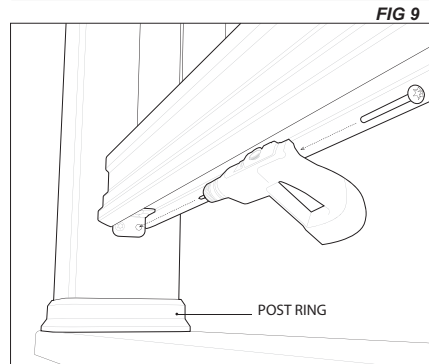

FIG 9
14. Center the bottom of the rail section on the post sleeve. Pre-drill through the bottom two holes of the bracket and attach both bottom brackets to the post sleeve with the 2 provided #10 x 2 1/2" rail bracket screws. **Note: A bit extension may be necessary to drive screws. (Figure 9)**
14. Remove the baluster hardware pack from the baluster kit and begin attaching balusters to the top universal rail using the provided #8 x 3" screws. Repeat for the bottom universal rail. **NOTE: Do not overdrive screws into the balusters.** **(Figure 9)**